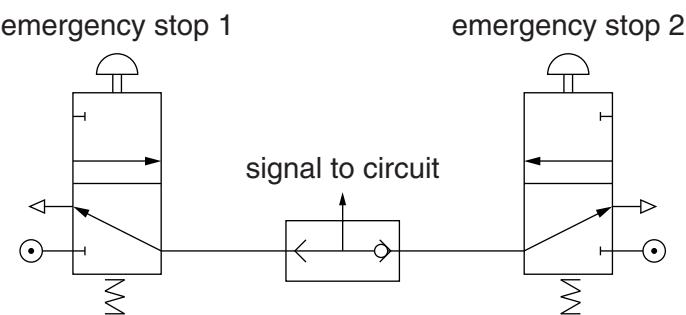

Fig. 6
- (ii) There must also be a second emergency stop button for the operator to press if needed. Fig. 6 shows two buttons connected to a shuttle valve.